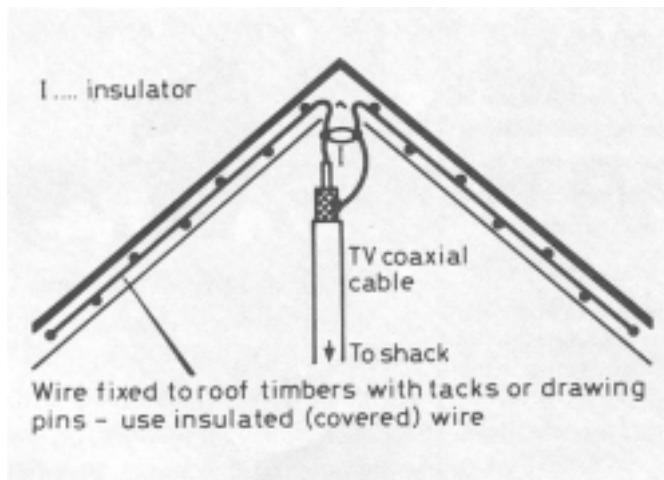
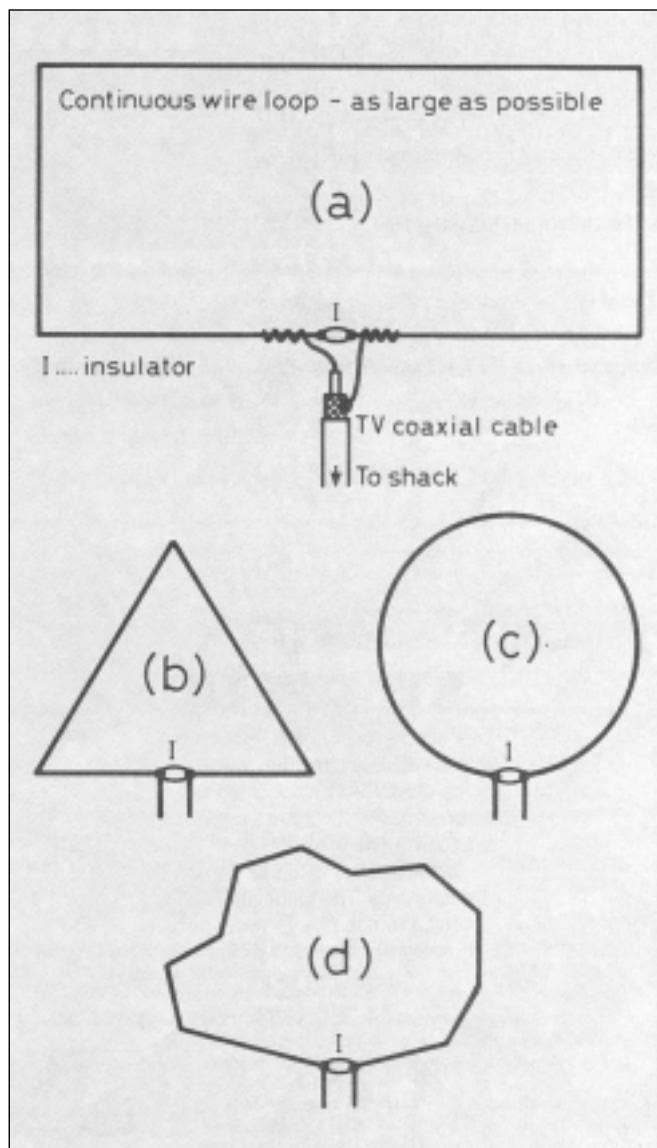

Figure 2 An indoor antenna should be mounted as high as possible
Figure 3 Try different shapes of loop antenna to see which works best
Next up the ladder of complexity is the **dipole** (meaning two poles, or two elements). One form of dipole for lower frequencies would take the same basic form as the long wire, except that the feed to the receiver is taken, not from the end, but from the centre. The wire is essentially cut into two halves, and the two ends at the centre are connected to one end of a coaxial cable, which is then taken to the receiver. A smaller form of this is shown in **Figure 2**, which is conveniently mounted in a house loft. Aerials should always be mounted outside for best results, but will work when mounted inside, and the loft space is the logical situation.
For flat- or apartment-dwellers, an indoor aerial is often the only solution, in which case the dipole of Figure 2 may be of great use. Other popular types include the **loop aerial**, of which several types are shown in Figure 3. The shape of the loop is of secondary importance, but it should be as large as possible.
Every receiver needs some audio frequency (AF) amplification to make the sound signals big enough for you to hear. The circuit for the AF amplifier is shown in **Figure 2**. It uses the TDA7052 integrated circuit (IC) plus a handful of extra components. R1 in conjunction with C2 and C3 *decouple* the battery supply, preventing any audio signals getting through to it and affecting other parts of the radio, when they are connected. C1 acts to prevent high frequencies (above the 3 kHz bandwidth) going into the amplifier input. A volume control, VR1, is connected across the amplifier input, so that the amplifier can accept signal inputs over a wide range. **Figure 3c** shows the connections, which are made with screened cable. The
Figure 2 The Philips TDA7052 integrated circuit (IC) used in the audio amplifier needs very few extra components. It has a signal voltage gain of 100 times and the output is suitable for a loudspeaker or headphones
centre conductor of the left lead goes to the point marked ‘input’ in Figure 2, the braid being connected to the amplifier earth (0 V) tag. The right lead to VR1 goes to whatever signal source you have for testing – see later. VR1 is *not* mounted on the PCB.
Figure 3 It is important to check the component connections carefully. The diagram shows (a) top view of the IC, (b) electrolytic capacitor and (c) volume control (VR1) connected across the input of the amplifier